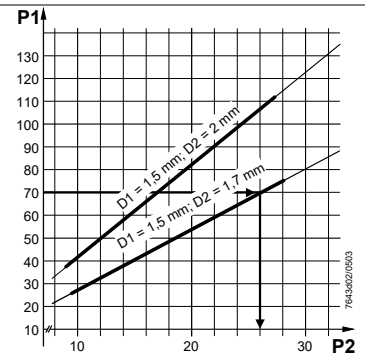

Figure 12. AGA78 Adjustments.
The air is blown out continuously into the atmosphere through the restrictor D2. The air undergoes a drop in pressure across the restrictor D1. The relationship is shown in the diagram (Figure 12).
- Adjust the auxiliary switch (if provided) according to the wiring diagram on the label below the terminals (see Figure 12). The adjustment screw and scale are located on the right side of the terminal box, and are visible through the transparent portion of the terminal cover.